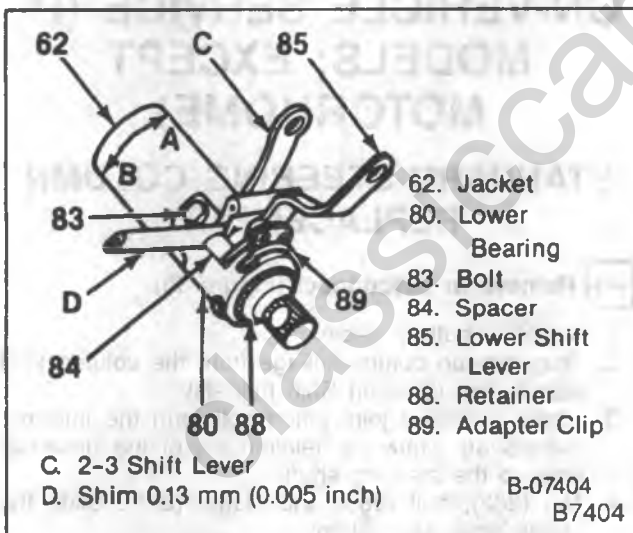

Figure 28—Lower Bearing Adjustment
-  **Adjust (Figure 28)**
- Increase clearance by sliding the clamping screws in the direction of arrow "B" until the first reverse lever is free of drag (figure 28).
- Decrease clearance by sliding the clamping screws in the direction of arrow "A" until a slight drag is felt at the first reverse shift lever (figure 28).